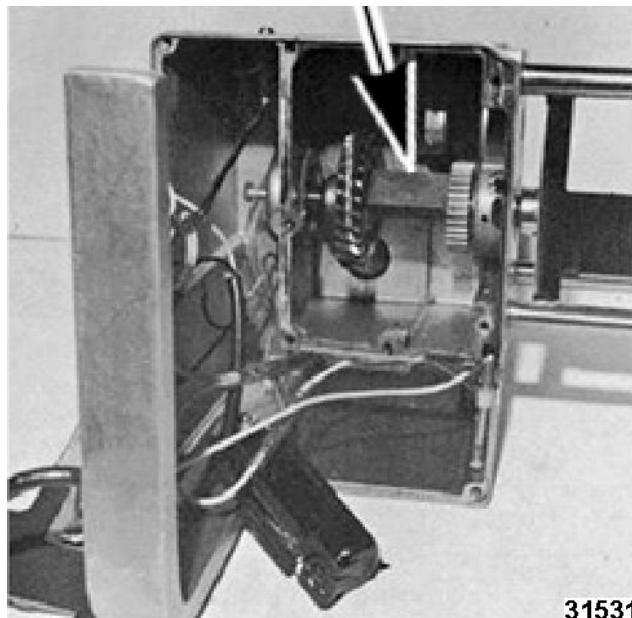

Fig. 36
- I. Use successively larger blocks between the 32T gear and the worm gear (Fig. 36) until the worm gear is clear of the Woodruff key. Remove the key and worm gear from the shaft. Remove the 32T gear.